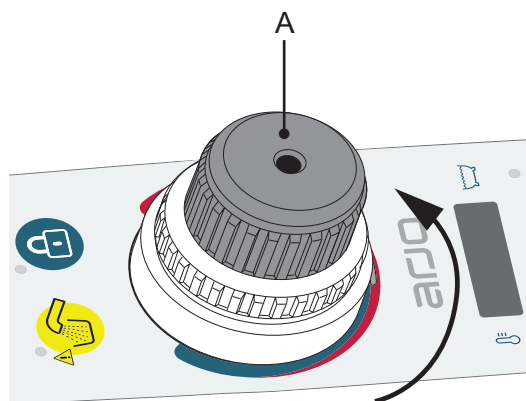

Fig. 17
Turn the Calibration knob (A) **gradually** counter clockwise and wait for the temperature display to read 43–44°C. See Fig. 17.